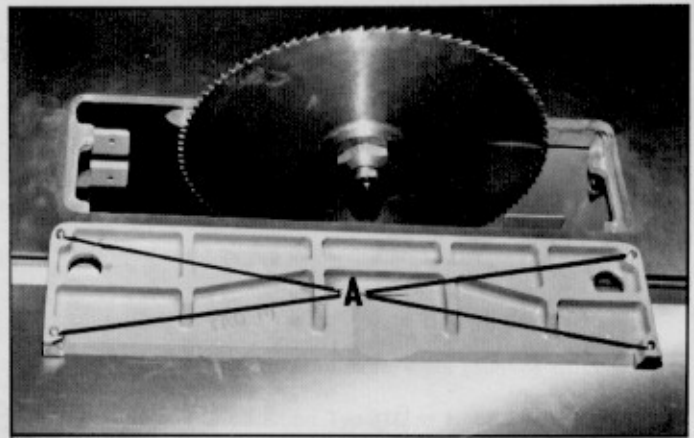

Fig. 13
The table insert should always be flush with the table top. To adjust the table insert, turn the adjusting screws (A) Fig. 13, in or out.